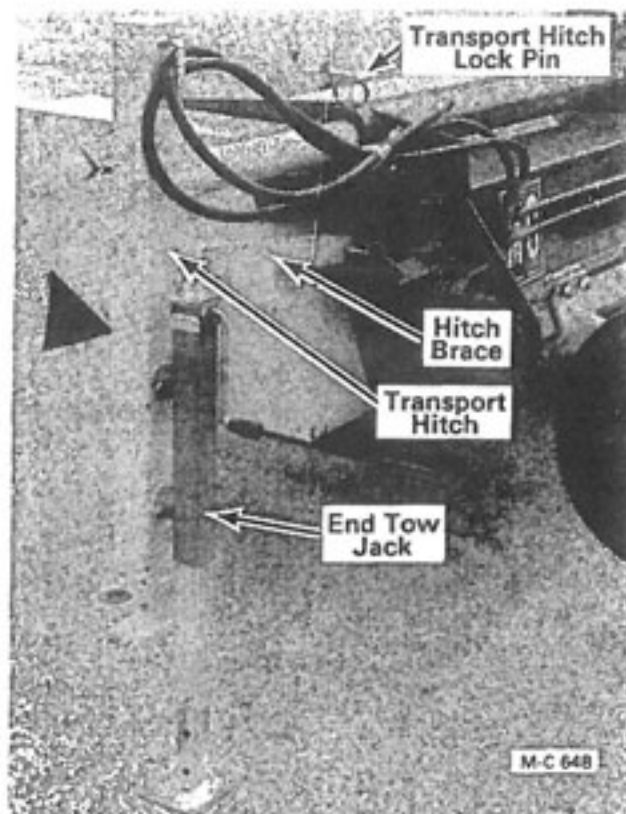
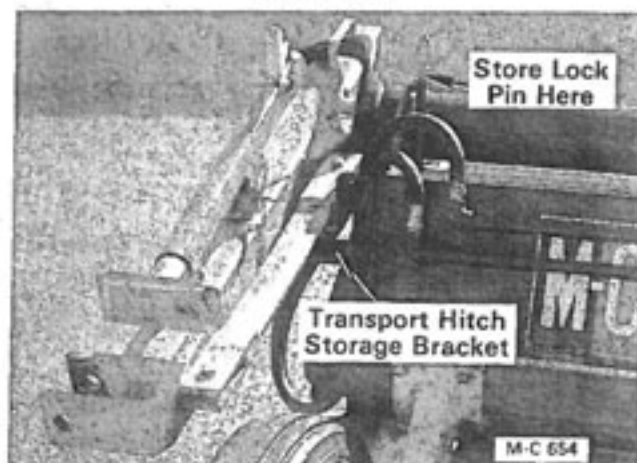

Figure 15D
Figure 15F
8. Connect the Shredder hydraulic hoses to the tractor. Lower the transport hitch with the jack. Retract the jack all the way, see Figure 15D.
10. Disconnect the transport hitch brace from the Shredder. Remove the clip from the end of the transport hitch lock pin and pull the pin out, see Figure 15D. Store the lock pin in the holder on the left side of the Shredder, see Figure 15F.
11. Slide the transport hitch assembly into the pipe and place it on the storage bracket, see Figure 15F.